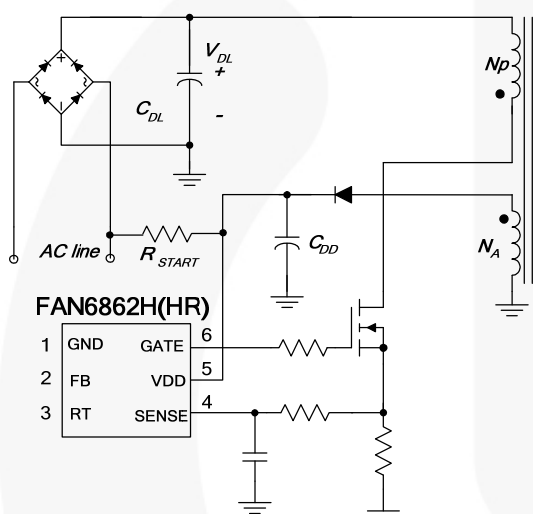

Figure 22. Startup Circuit
Figure 22 shows a typical startup circuit and transformer auxiliary winding for a FAN6862H(HR) application. Before FAN6862H(HR) begins switching, it consumes only startup current (typically $8\mu\text{A}$) and the current supplied through the startup resistor charges the V_{DD} capacitor (C_{DD}). When V_{DD} reaches a turn-on voltage of 16V (V_{DD-ON}), switching begins and the current consumed increases to 2mA . Then, the power required is supplied from the transformer auxiliary winding. The large hysteresis of V_{DD} (8.5V) provides more holdup time, which allows using a small capacitor for V_{DD} . The startup resistor is typically connected to the AC line for a fast reset of latch protection.